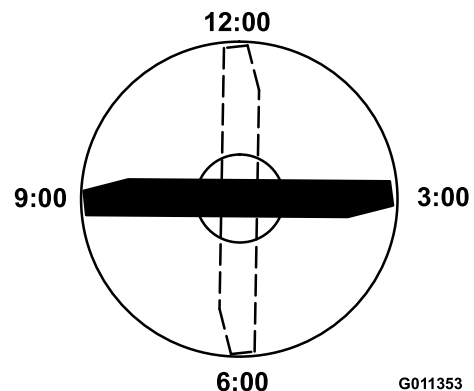

Figure 104
4. Position the cutting edge of the marked end of the blade at 12 o'clock (straight ahead in the direction of mowing) (Figure 104) and measure height from table to cutting edge of blade.
5. Rotate the marked end of the blade to the 3 and 9 o'clock positions (Figure 104) and measure the heights.